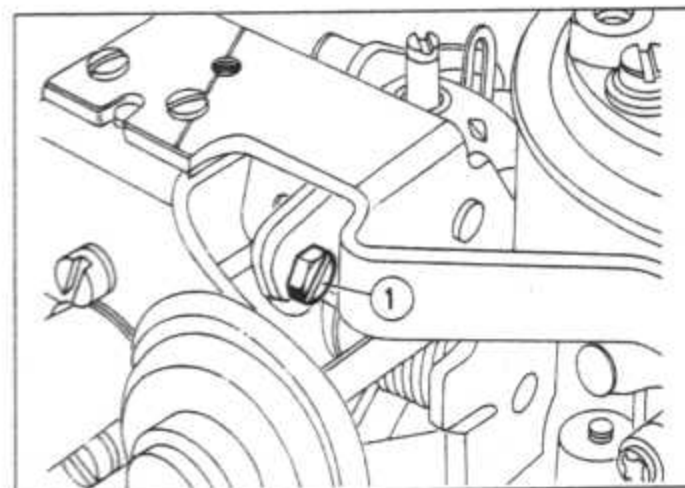
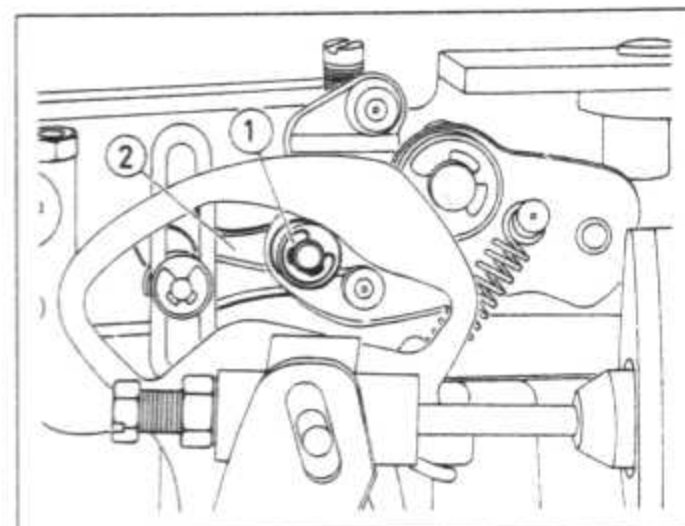
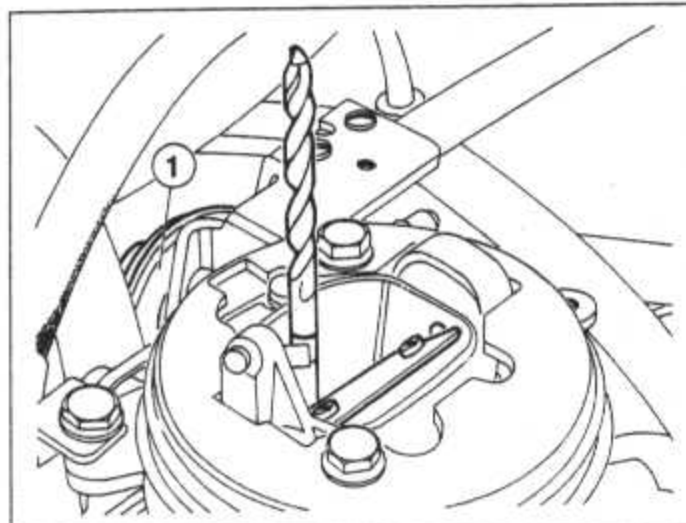

Fig. 13.22 COAS adjustment on the Weber 36 TLC carburettor (Sec 7)
Fig. 13.23 COAS adjustment on the Weber 36 TLC carburettor (Sec 7)
Fig. 13.21 COAS adjustment on the Weber 36 TLC carburettor (Sec 7)
18 Disconnect and plug the hose (1) shown in Fig. 13.21, and check now that the choke flap is open by 5.5 mm - if not, loosen screw (1) (Fig. 13.22), hold the roller (1) (Fig. 13.23) against the top of the cam, and adjust lever (2). Retighten the screw and reconnect the hose afterwards.